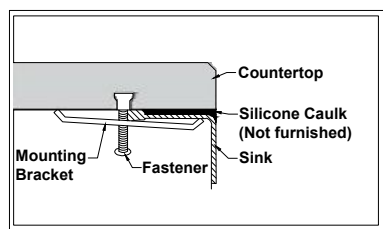

Figure 1
- A. Flush mount: Sink edge is flush with countertop opening. (FIGURE 1)